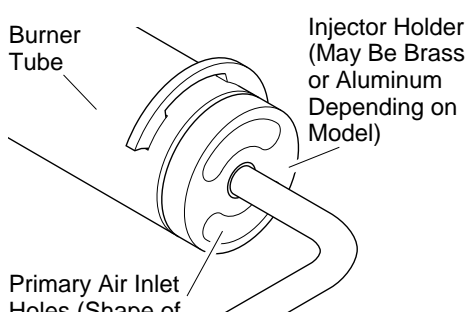

Figure 33 - Injector Holder On Outlet Burner Tube
2. Inspect burner, pilot, and primary air inlet holes on injector holder for dust and dirt (see Figure 33).